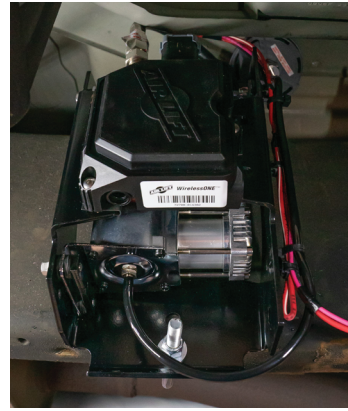

fig. 4
1. There are three choices for mounting: 1) hex cap bolts (N) with flat washers (M) and nylon lock nuts (L); 2) U-bolt (K) with washers (M) and nylon lock nuts (L); 3) self-tapping screws (O). See Figure 4 for U-bolt installation.